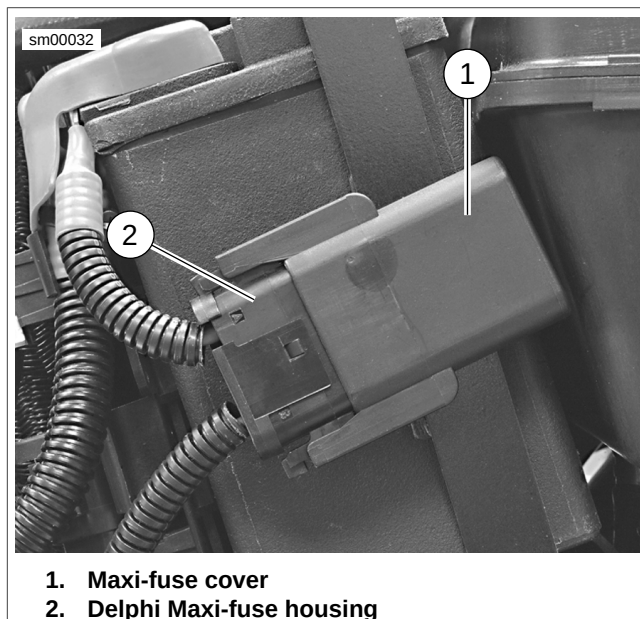

Figure A-30. Delphi Connector Housing: Maxi-Fuse
1. See Figure A-30. Depress latches on Maxi-fuse cover (1) and then slide cover off of connector (2).